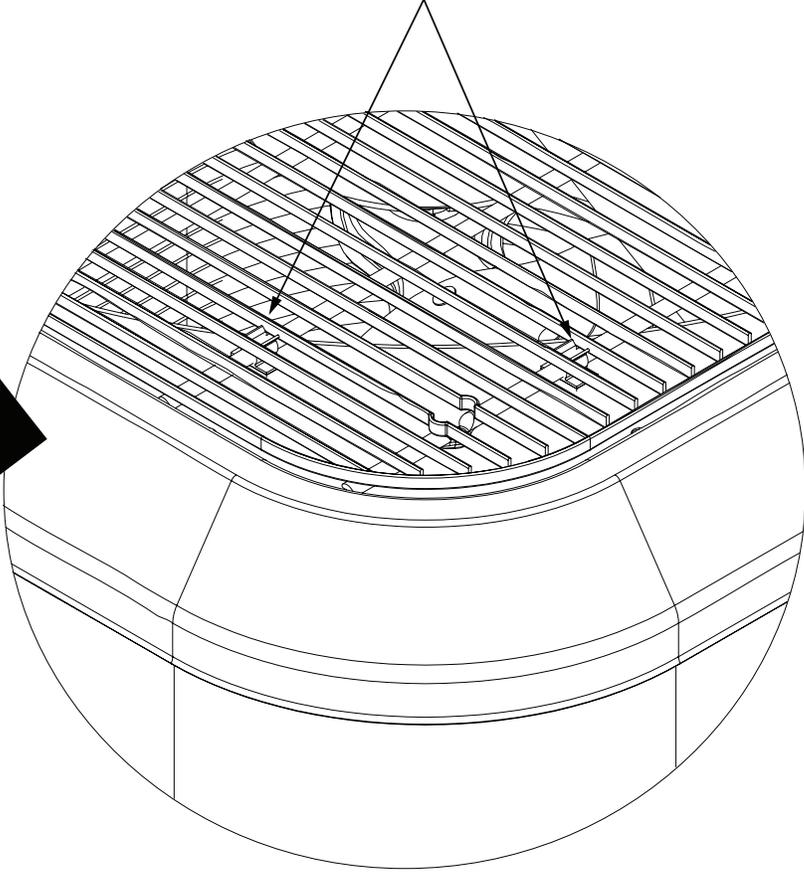

Figure 1. Clip On Damper Locations
2. Attach the clip on dampers to the grille in the locations shown in Figure 1. Push the open end of the clip on the damper down over the round metal rods of the fan grille. Make sure the flat paper covered end is pointing up.